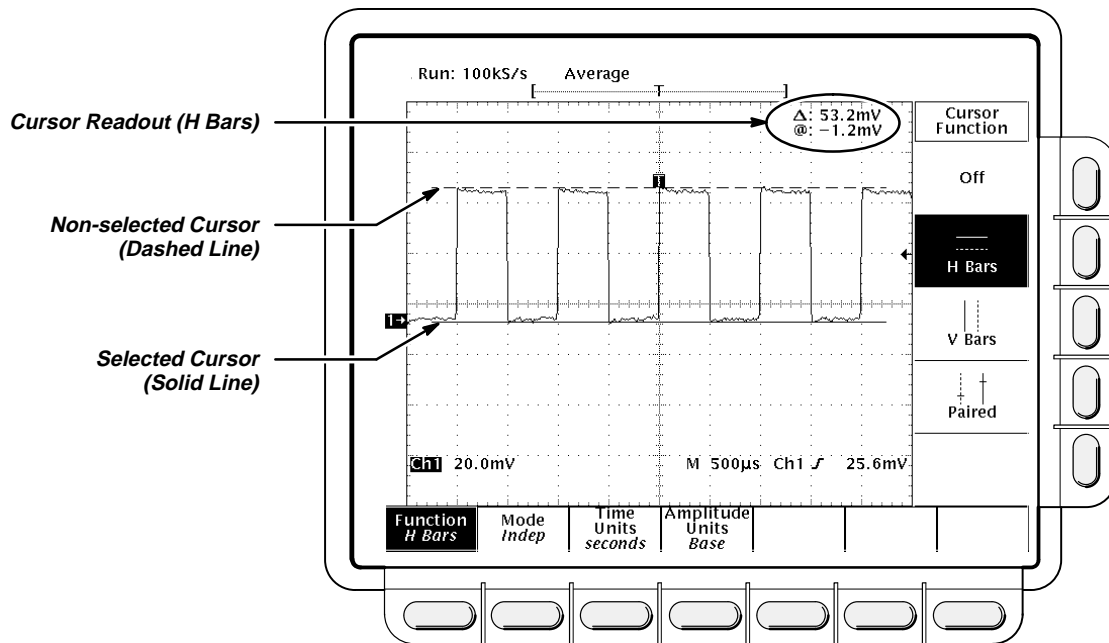

Figure 3-10: H Bars Cursor Menu and Readouts
- **H Bars:** the value after Δ shows the voltage difference between the cursors. The value after @ shows the voltage of the selected cursor relative to ground (see Figure 3-10). With the video trigger option, you can also display the voltage in IRE units.
To take cursor measurements, press **CURSOR** to display the Cursor menu (Figure 3-10).